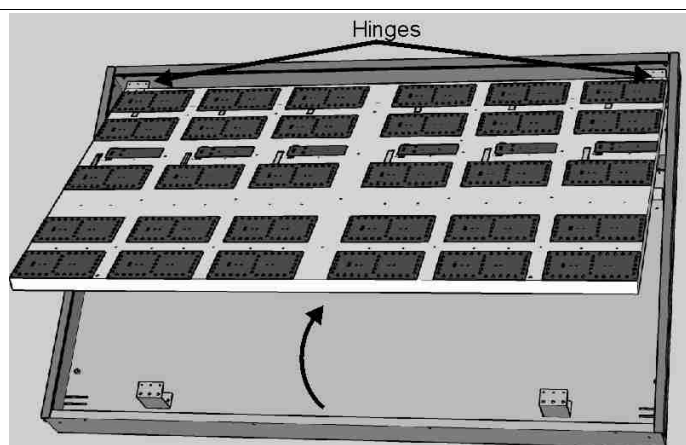

Fig. 15: Opening the metal support of the LED display board
5. Rotate the LED board support (Fig. 15) using the hinges on the left side as a pivot.